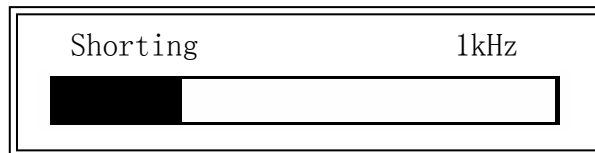

Figure 4-7. Short Correction Information
- 3) Press **ShSWP**. TH2816A will measure the short impedance (inductance and resistance) at all frequency points. Figure 4-7 shows the short correction information.